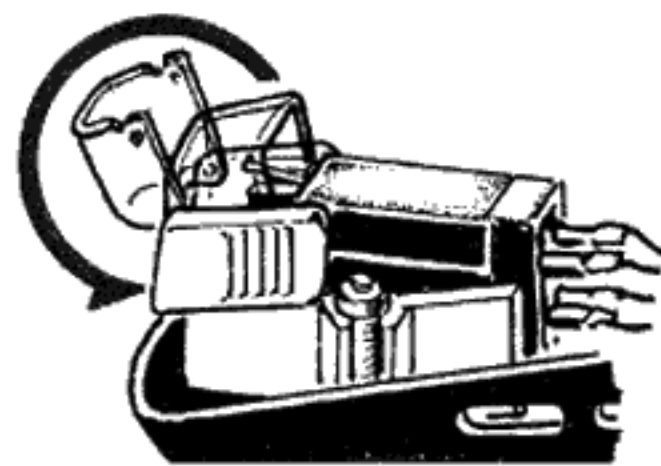

Fig. 26
2. Move up the stylus cover. (Fig. 26)